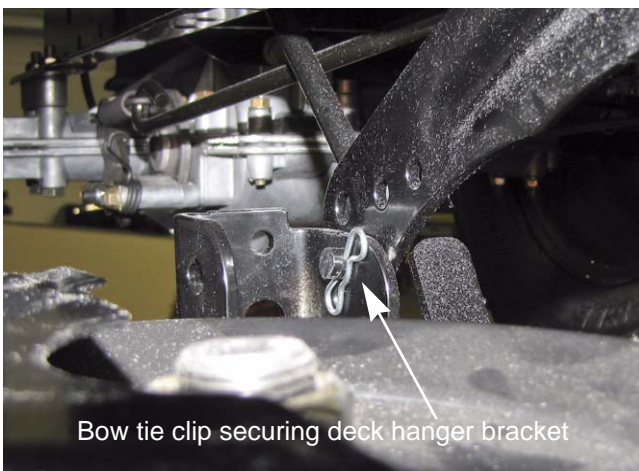

Figure 8.7
7. Remove the bow tie clips securing both sides of the deck to the deck hanger brackets. Carefully release the deck from the hanger brackets. See Figure 8.7.